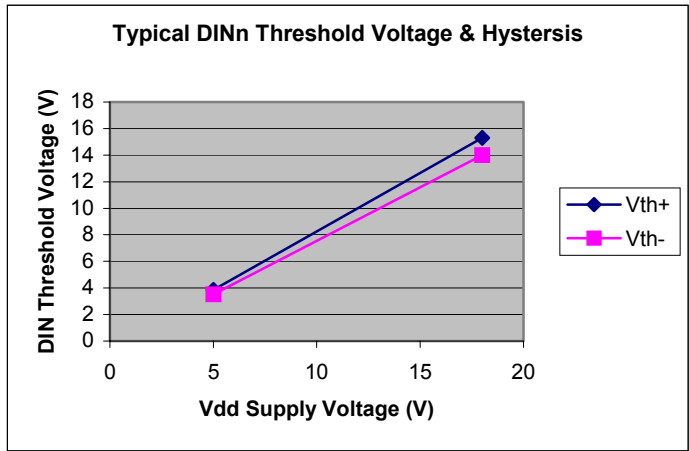

Figure 4 DIN Threshold vs Vdd
- Hysteresis is approximately as shown in Figure 4.